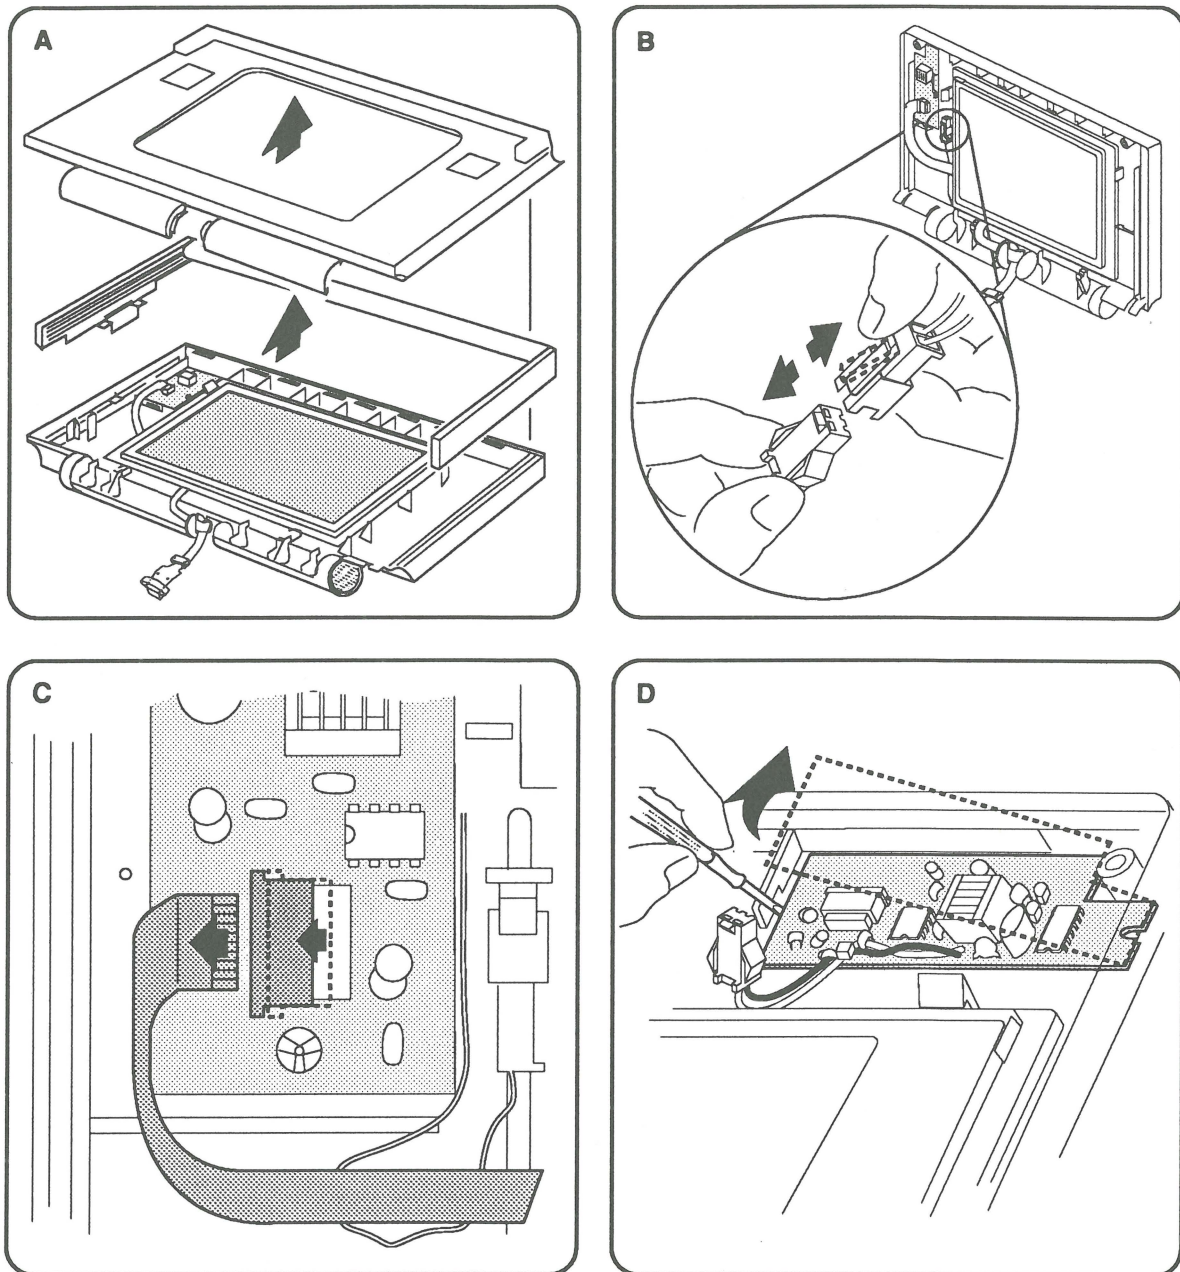

FIGURE 17
7. **Figure 17-A.** Lift the display bezel and carrying handle off the display housing.
8. **Figure 17-B.** Disconnect the ccfl-lamp-to-inverter-PCA cable by pressing on the tab and pulling the two connector halves apart.
9. **Figure 17-C.** Disconnect the cable that connects the inverter PCA to the LCD display by **gently** sliding the latch away from the display and then sliding the cable from the connector.
10. **Figure 17-D.** Use a jeweler's flat-blade screwdriver to **gently** pry the inverter PCA loose from the display housing. A little force is required since the PCA is held in place with double-sided tape.